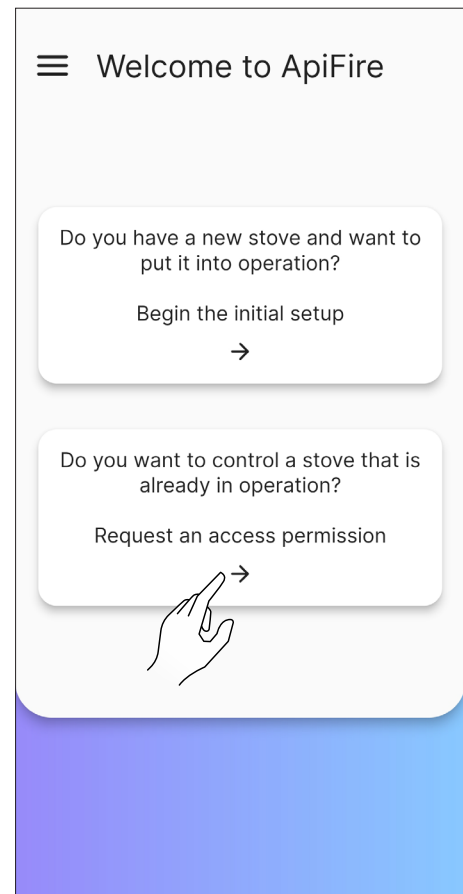

Fig. 8.27
- select “Do you want to control a stove that is already in operation?” (Fig. 8.27)